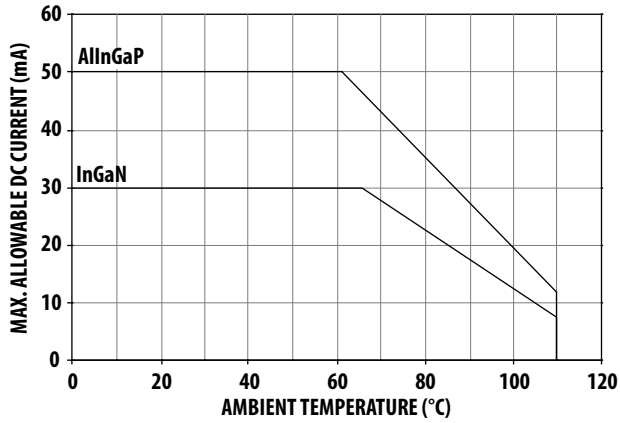
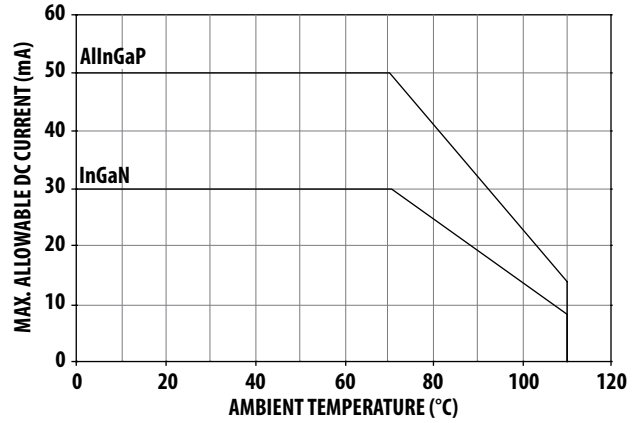

Figure 5a. Maximum forward current vs. ambient temperature. Derated based on $T_{jMAX} = 125^{\circ}C$. (3 chips)
Figure 5b. Maximum forward current vs. ambient temperature. Derated based on $T_{jMAX} = 125^{\circ}C$. (single chip)
1. Derate linearly as shown in Figure 5a & 5b.
4. Refer to Figure 5a and figure 5b for more information